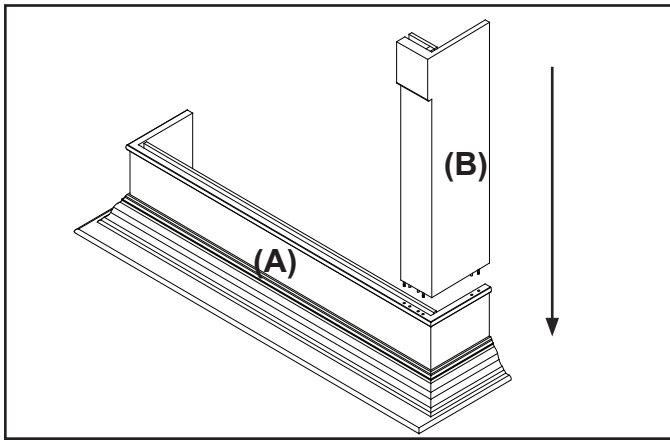

Figure 2
1. Position the top assembly (A) of mantel upside down on a flat, clean, non-abrasive surface.
2. Dowels and cam pins are shipped pre-inserted in the end of the leg assembly (B). See Figure 2. Before installing mantel leg, use a Phillips screwdriver to ensure the cam pins are secured in the leg with the cam fasteners positioned at 1/2 turn as shown in Step 4, page 3.
3. Attach left leg assembly (B) to the top assembly (A) by inserting dowel and cam pin into matching holes on ends of the top assembly (A). Note: Make sure that the arrow on the cam lock fasteners in the top assembly point toward the edge of the board. Re-view page 3 for cam fastener instructions.